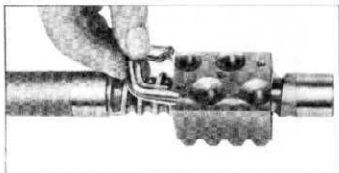

Fig. 45—Removing and Replacing Ball Guides
5. Push the guide into the guide holes of the nut (fig. 45). This completes one circuit of balls. If guide does not push all the way down easily, tap it lightly into place with a soft mallet.